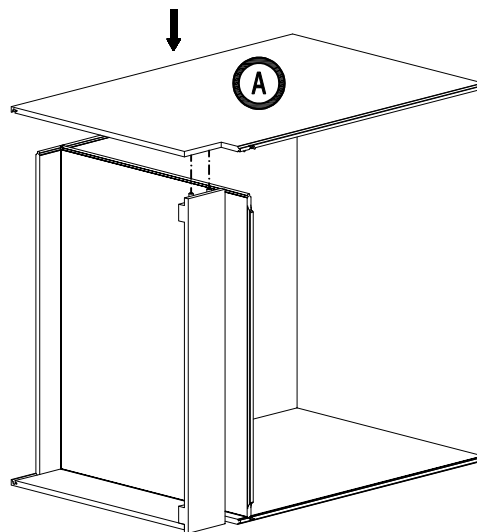

Figure 3
3. Installing the side panel: Insert the side panel (A) into grooves of back panel (B) & bottom (C) and toe kick (D). Press down until they click into place. (Figure 3)